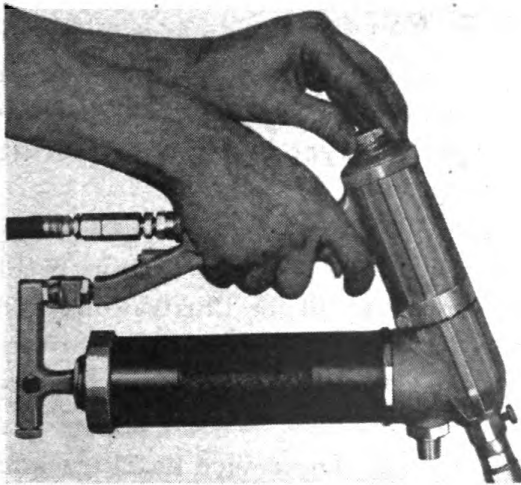

Figure 77
d. If gun operates too slow or too fast, the speed can be regulated by turning the exhaust cap (See Figure 77). Turn down to decrease speed and turn out to increase speed of the air motor.